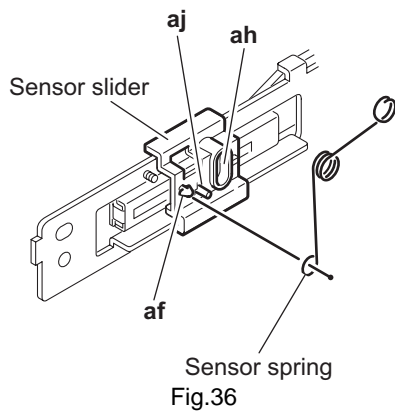

Fig.36
- When reattaching the SV. resister, attach the sensor slider to the sensor bracket and fit the lever on the bottom of the SV. resister into slot aj of the sensor slider. (See Figs.36 and 37.)
- Fit pin ak of the slide lever into hole ah of the sensor slider on the bottom of the sensor assembly while attaching the sensor spring to the boss af of the sensor slider. (See Figs.36 and 38.)